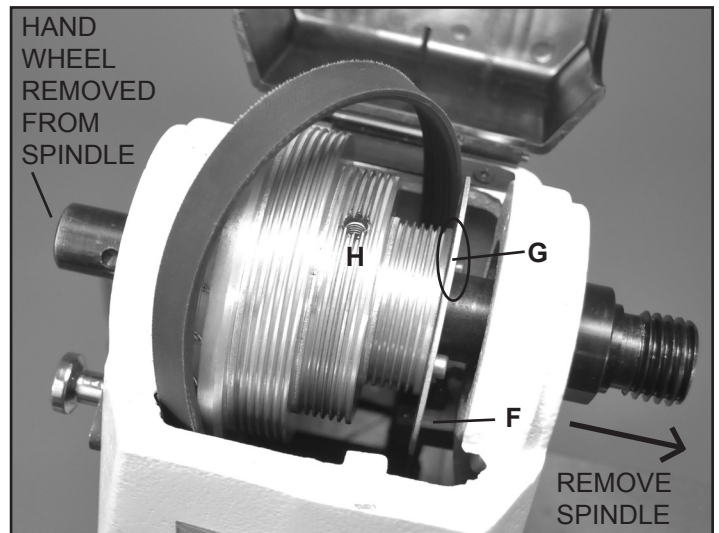

FIG. 11
7. Remove the two countersunk Phillips Screws (#33B) that hold the RPM Reader and Support Bracket assemblies (#49, 48, 48A-F), which are located under the Spindle Pulley's Segmented Plate (#53, G). This will drop the RPM Reader inside of the headstock and safely away from the spindle pulley. FIG. 11.
8. Remove the Set Screws (#51, H) that attach the Spindle Pulley to the spindle. The pulley should now be loose on the spindle. **NOTE:** There are two (2) set screws in the threaded hole, one on top of the other. This stacking prevents the set screws from loosening during use.